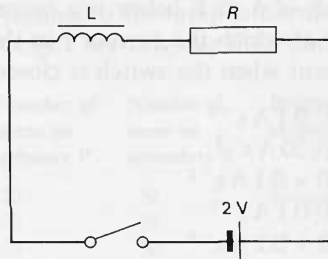

Figure H92
- 37(P)** When the switch in figure H92 is closed, the current in the circuit rises to 0.5 A in the first 0.01 s. For this period, the rate of rise of current is very nearly steady. R is $0.1\ \Omega$, and L has negligible resistance.